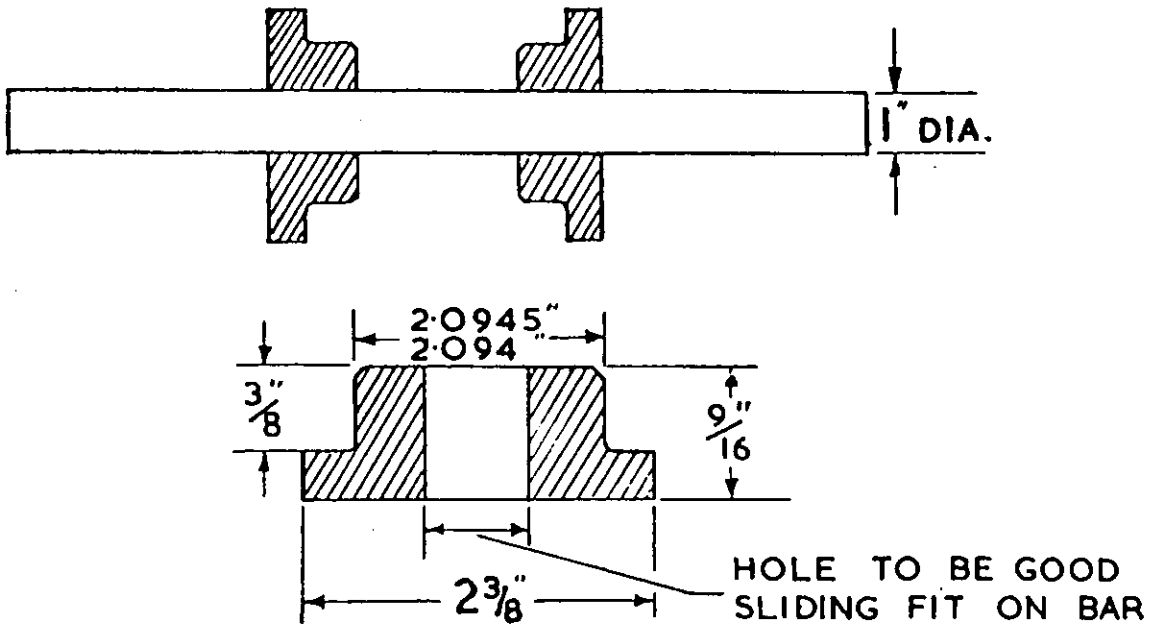

FIG. D.1. *Steering head mandrel.*
- One mandrel and two blocks as in Fig. D.1.